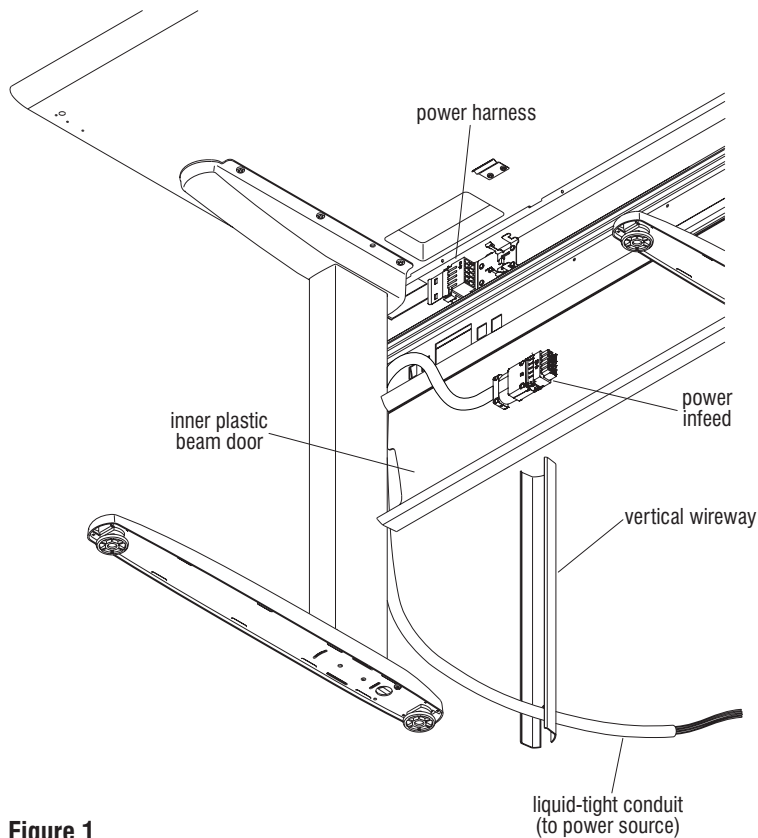

Figure 1
1. To expose the power harness, unclip and open the inner plastic beam door at the underside of the worksurface (Figure 1).
2. Feed the liquid-tight conduit and exposed 10-wires of the power infeed down through the D-shaped hole in the horizontal data trough. Orient the power infeed connector so the arrow is facing up and plug the power infeed connector into the power harness (Figure 1).
3. Route the liquid-tight conduit through the cut-out in the bottom of the vertical wireway, and toward a power source, but do not connect to power at this time. (Figure 1).
4. Re-attach the vertical wireway to the leg first by sliding the wireway up into the D-shaped opening in the horizontal data trough, then down into the D-shaped opening in the foot. To secure, press against the top of the vertical wireway until it snaps into position (Figure 1).